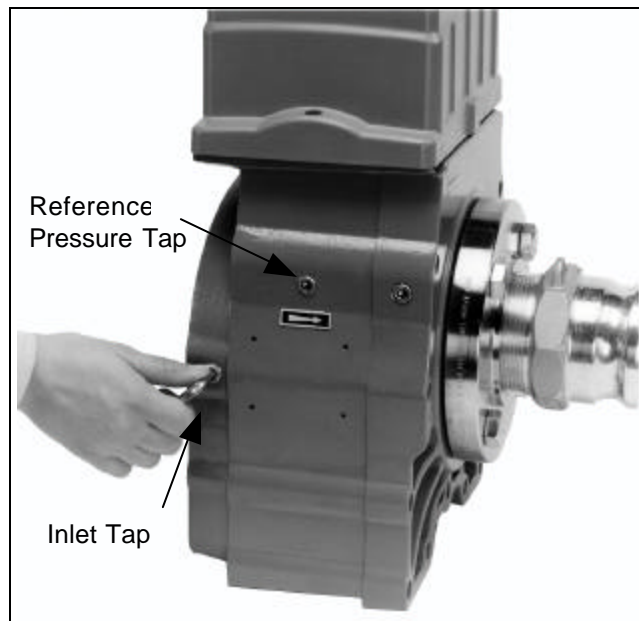

Figure 4.3 Pressure Taps
- 1 Choosing either side of the meter, locate the center pressure tap and the one closest to the inlet of the meter as indicated in Figure 4.3.